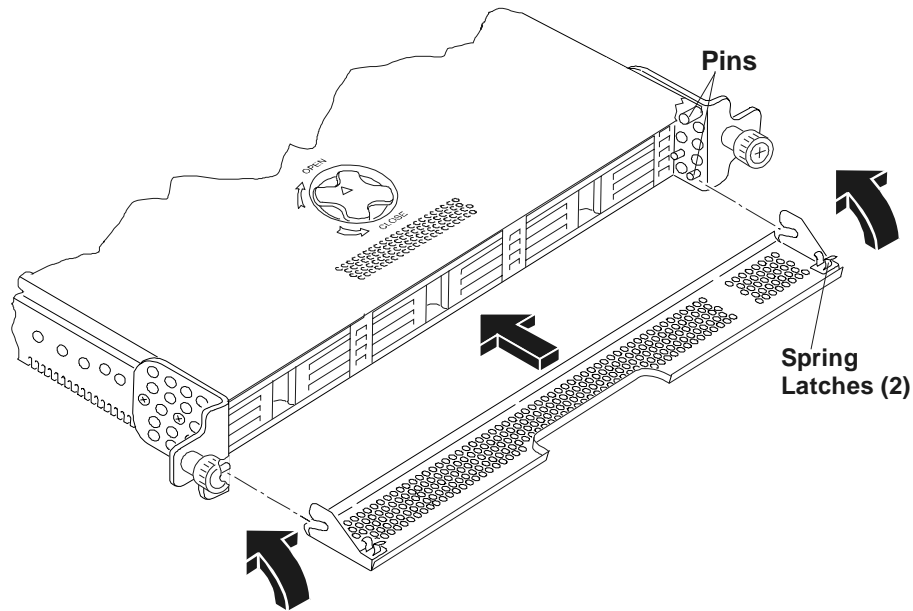

Figure 8-7. Attaching the Bezel
1. Position the Bezel in front of the HP Netserver LP 1000r as shown in Figure 8-7.